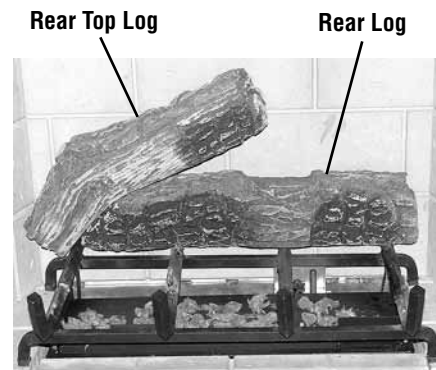

Figure 12
Step 3. Place the Rear Top Log over the left side of the Rear Log. Lay the log over the top left corner of the Rear Log, as shown in **Figure 12**. The log should rest against the back refractory.